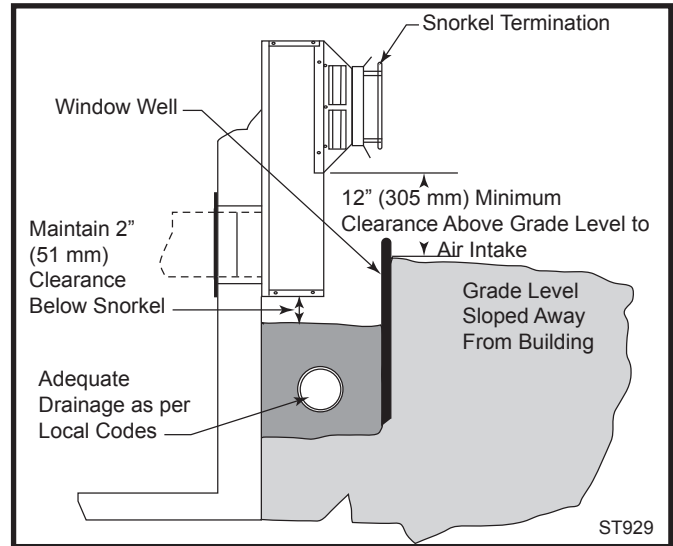

Fig. 42 Below grade installation.
1. Determine the appliance location. Refer to the appliance manufacturer's installation instructions for clearance to combustible requirements, termination options, number of elbows, maximum length, etc. Then position the appliance and plan vent routing accordingly. Consider locating the appliance in a place where there will be no interference with wall studs, electrical wiring, conduit, plumbing pipe or other obstructions. The termination should be located at least 12" (305 mm) (Fig. 42) above grade, remain above the snow line in geographical areas that accumulate snow and be away
NOTE: If a vertical rise is necessary on the exterior side of the building, a 14" (356 mm) and 36" (914 mm) Snorkel Termination (ST) is available. Follow the installation procedures for horizontal terminations. If the snorkel termination is to be located below grade, a window well is recommended with adequate and proper drainage as per local codes. Leave 2" (51 mm) clearance below snorkel to prevent water from entering the snorkel termination. Do not enclose the snorkel within a wall or other type of enclosure and **do not back fill**. Ensure that grade level slopes away from the building. (Fig. 42)